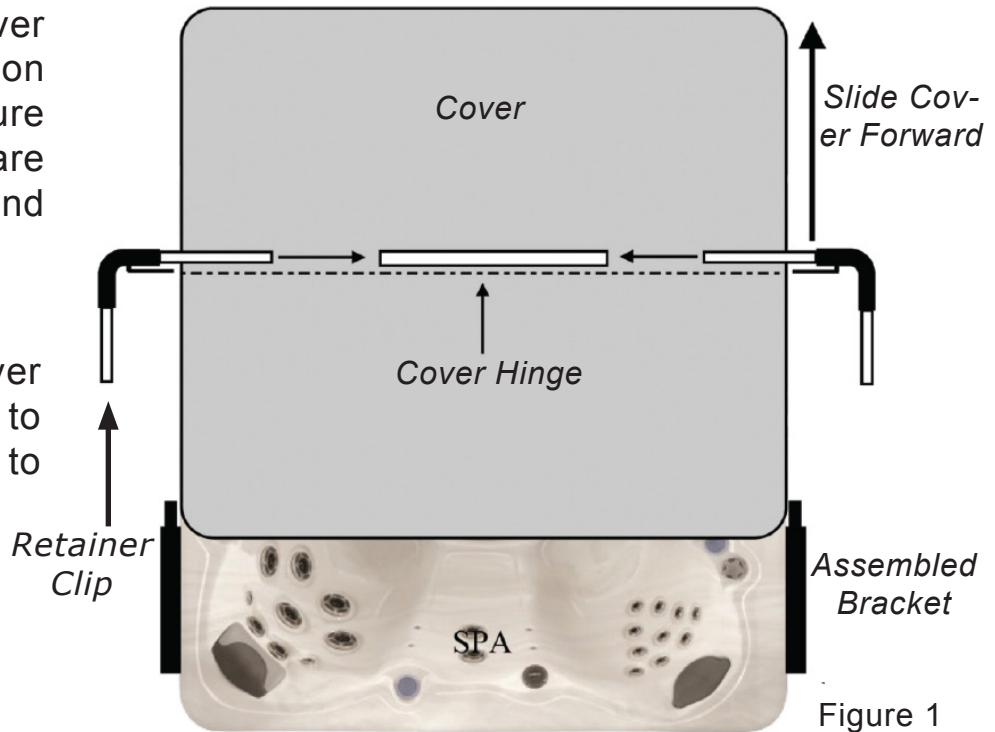
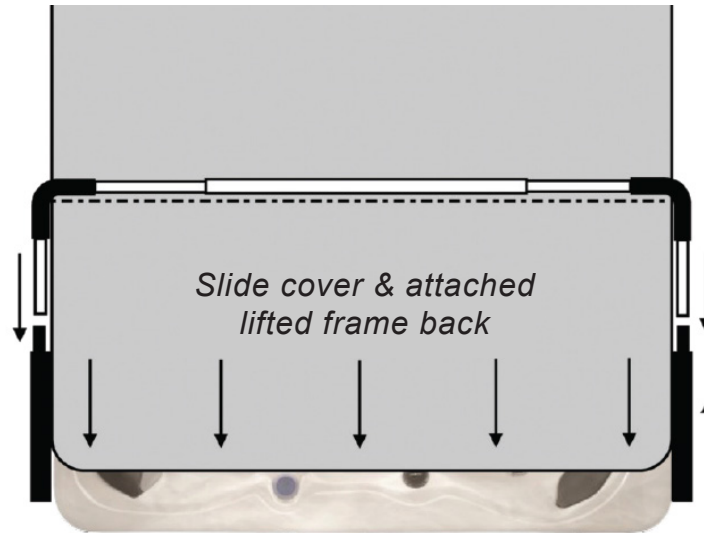

Figure 1
Figure 2
**4** Take one of the **Support Arms (D)** and slide the thin retainer clip that's welded to the support arm (see Figure 1) under the cover in between the 2 sides of the cover. The main support arm should rest on the top of the cover next to the hinge.
**5** Slide the **Center Coupler (C)** over the end of the **Corner Support Arm** that's already in position.
**6** Take the second **Support Arm** and repeat #4 by sliding the welded retainer under the cover but also remember to slide the end into the **Center Coupler**, so the frame looks like *Figure 2*.